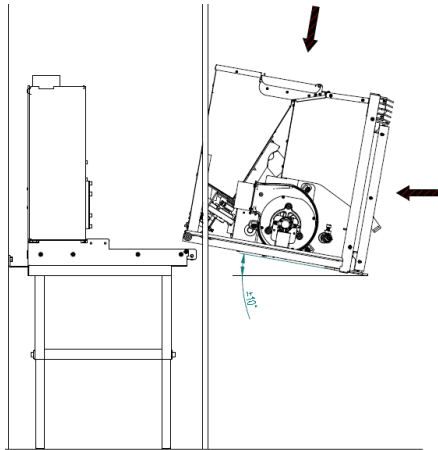

Figure 7 - Installation
- After securing the base of the equipment and the chimney being installed place the moving part of the equipment as shown in Figure 7.